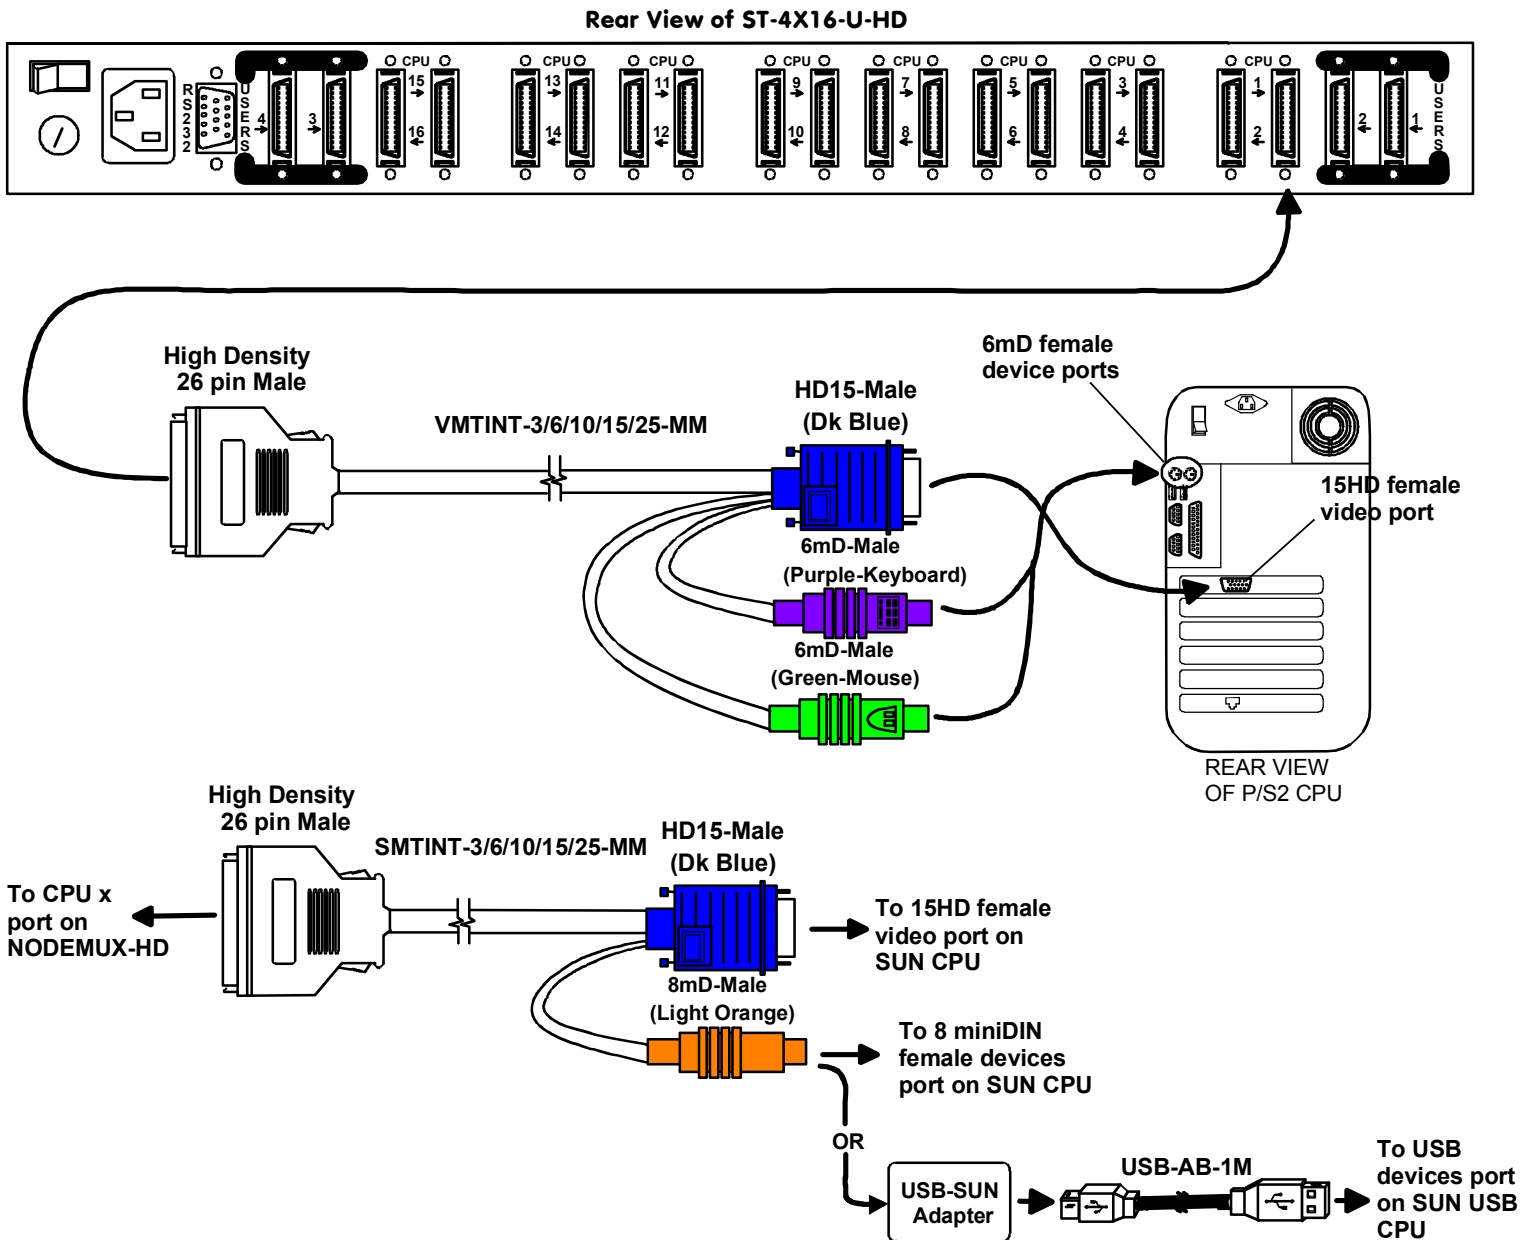

Figure 2- Connect CPUs to switch using interface cables
- For each CPU: Connect a VMTINT-xx-MM (PS/2 CPU) or SMTINT-xx-MM (SUN CPU) or MMTINT-xx-MM (MAC CPU) cable to the devices port(s) and video port of the CPU as shown in Fig. 2.
*For USB SUN CPUs, a USB-SUN adapter and a USB-AB-Xm cable must be used to connect the SMTINT-xx-MM cable to the CPU. See Fig. 2.*
- Connect the high density end of each cable to a CPU x port on the ST-nXm-U-HD switch. See Fig. 2.